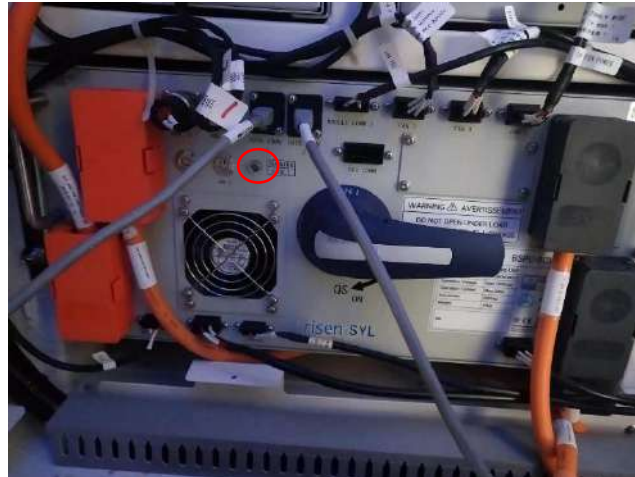

Figure 9-4: The indicator on the DC Switchgear(For reference only)
- a. If the indicator shows red (Figure 9-4 red circle), which means the contactor is not closed, it is necessary to check whether there is a fault in the circuit system or whether the switch is closed.